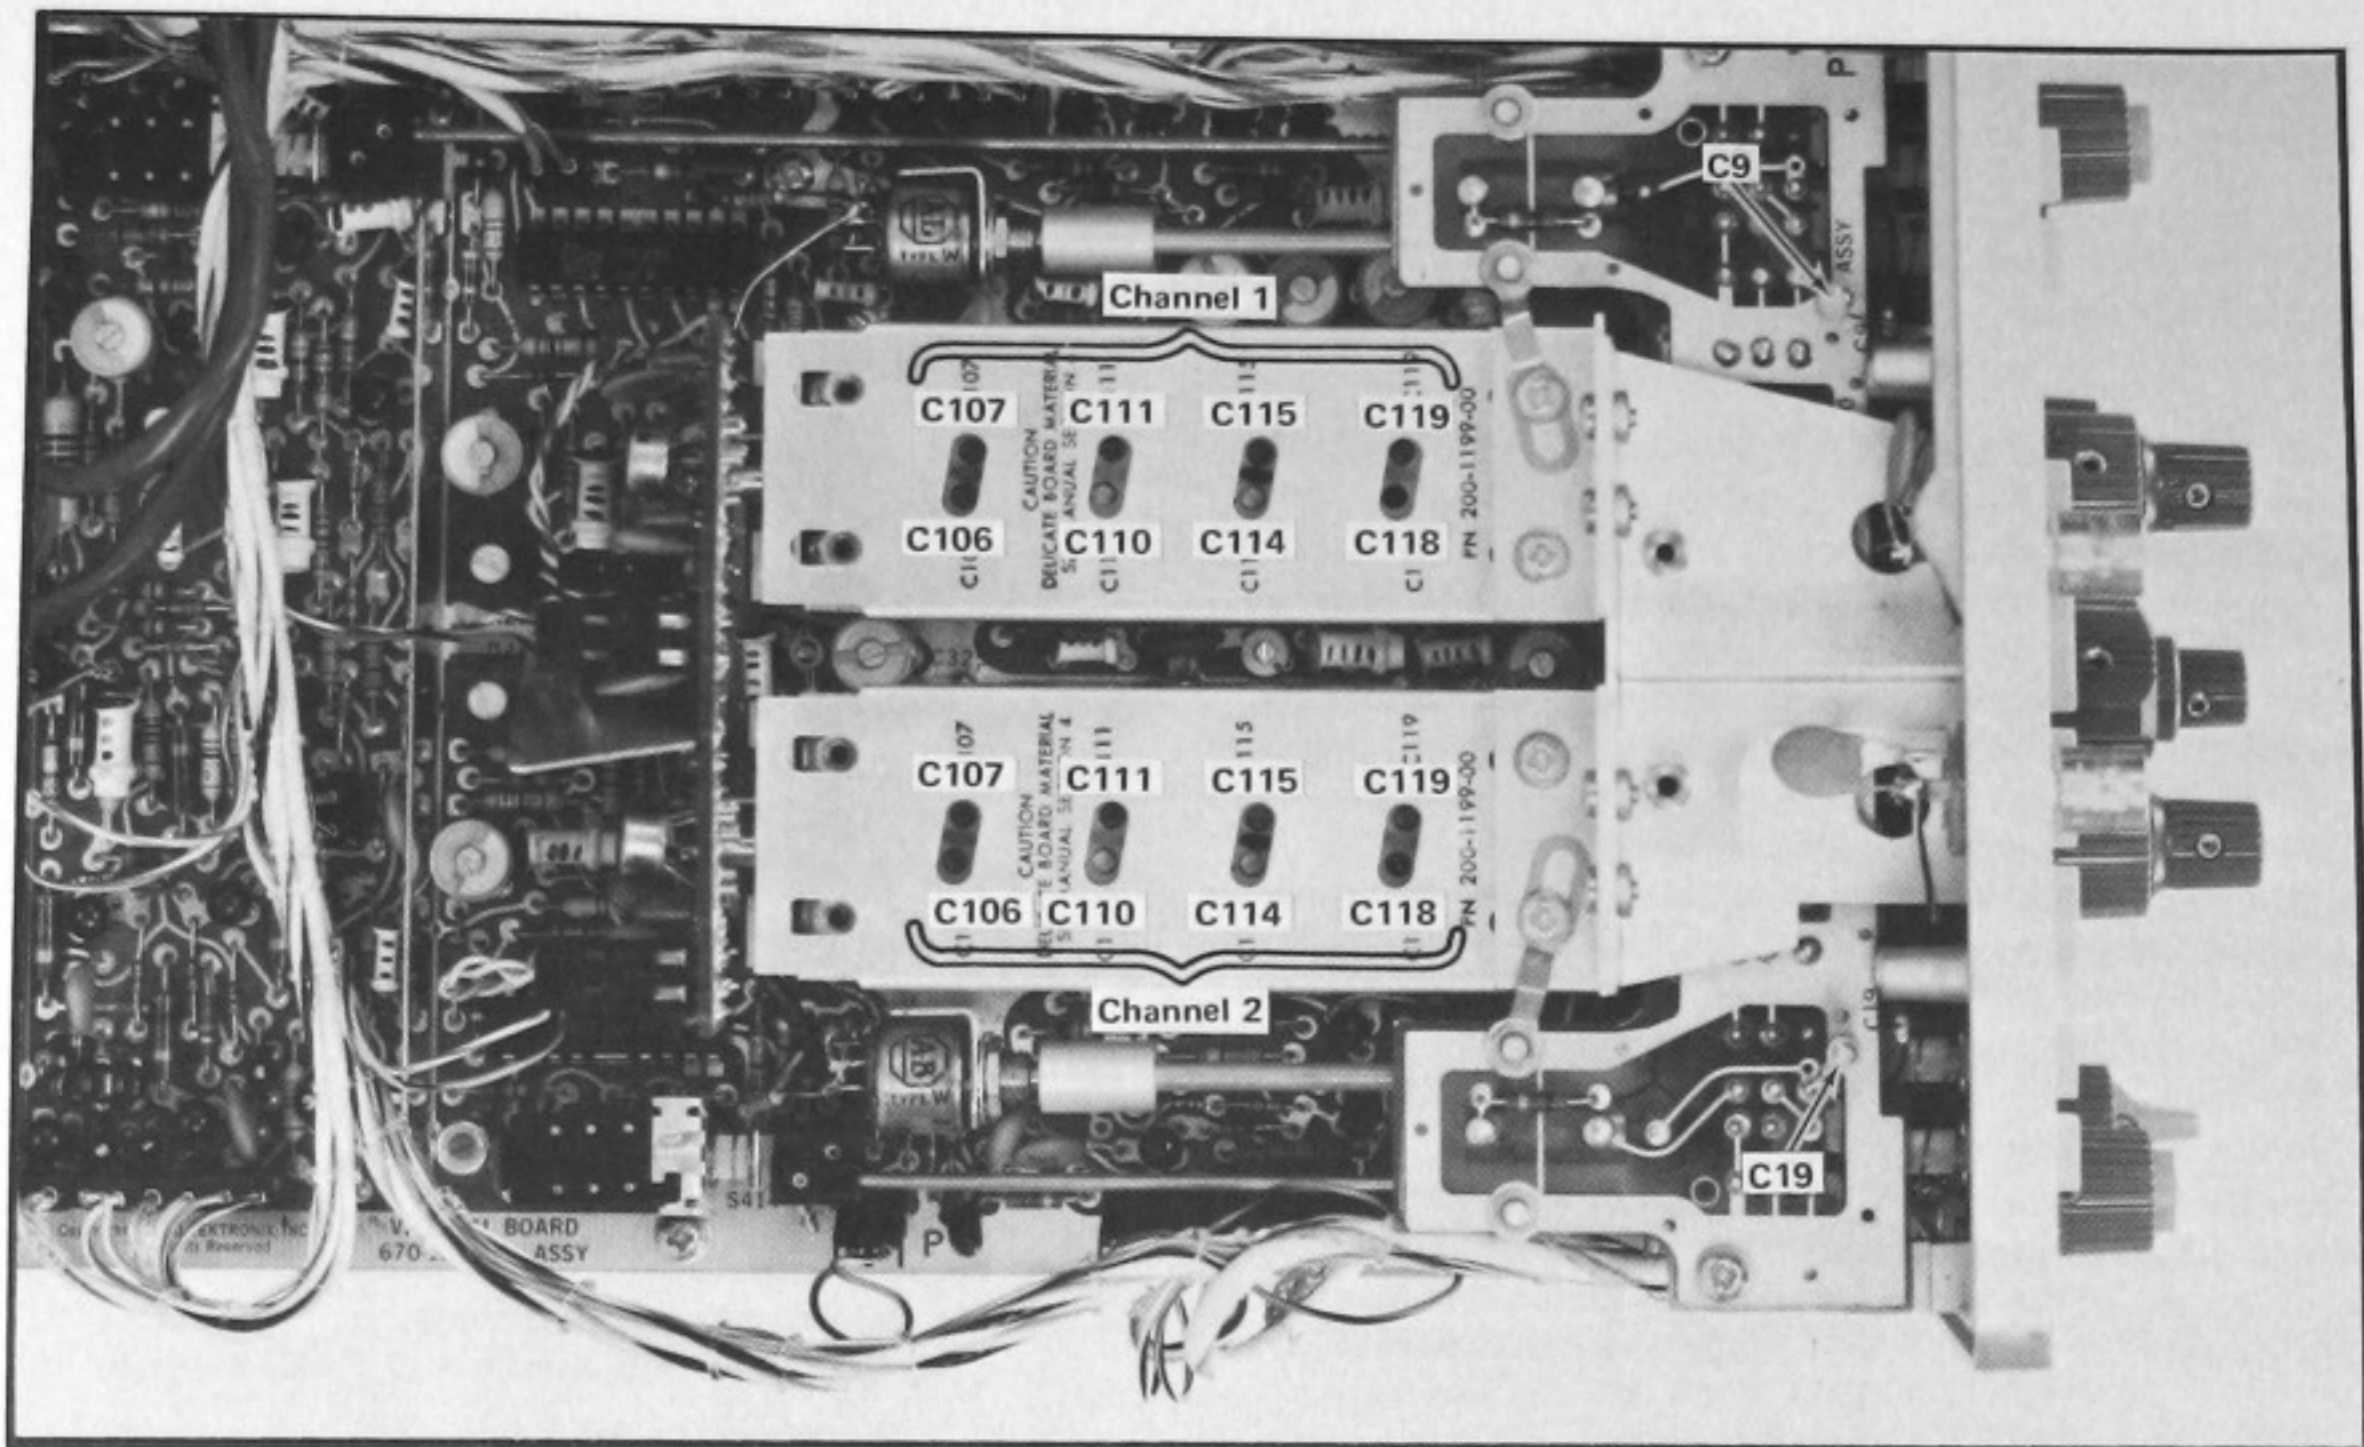

Fig. 5-7. Location of CH 1 & CH 2 VOLTS/DIV switch compensation adjustments.
f. ADJUST—Channel 1 VOLTS/DIV switch compensation as given in Table 5-2. Adjust for optimum square corner and flat top. Remove the 10X attenuator and/or 50 Ω BNC termination as necessary to maintain a five-division display amplitude. Fig. 5-7 shows the location of the variable compensation adjustments.
corner and flat top. Remove the 10X attenuator and 50 Ω BNC termination as necessary to maintain a five-division display amplitude. Fig. 5-7 shows the location of the variable compensation adjustments.